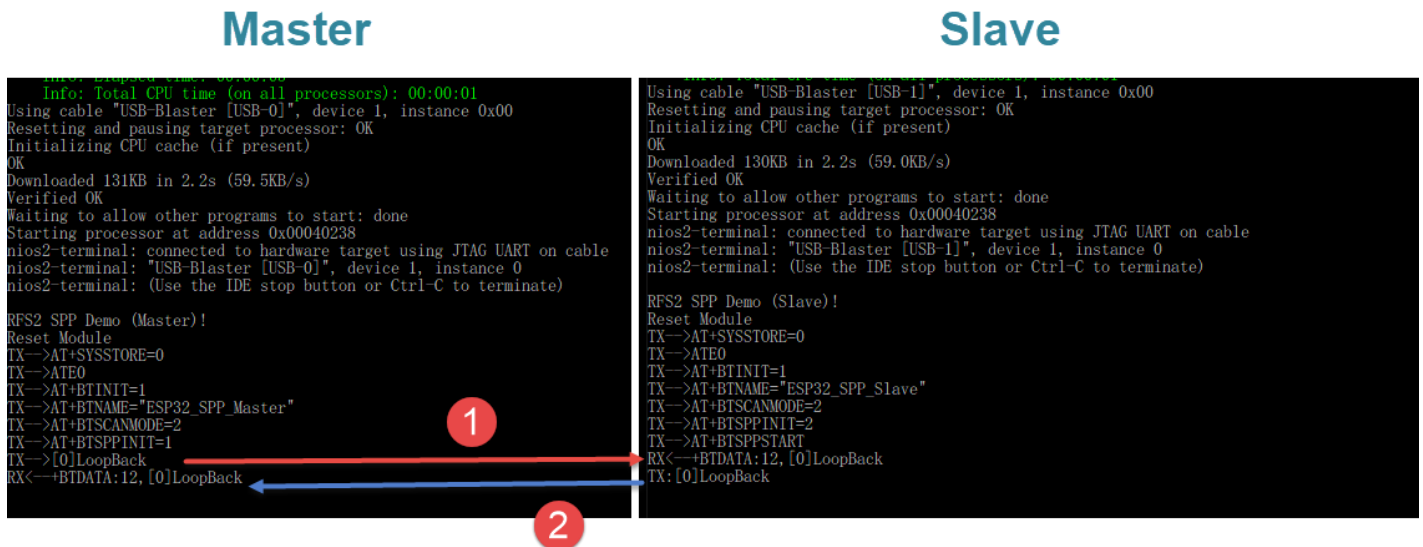

Figure 4-14 Transmit the string between master and slave
- The SPP master board will search the SPP slave board named “ESP_SPP_Slave” and pair the slave automatically. When the pairing is successful, the SPP master board will send a string : **[0]Loopback** to SPP slave board. When the slave board receives the string, it will send it back to the master board. User can observed data sending process from the both the master and slave board’s NIOS terminal as shown in **Figure 4-14**.